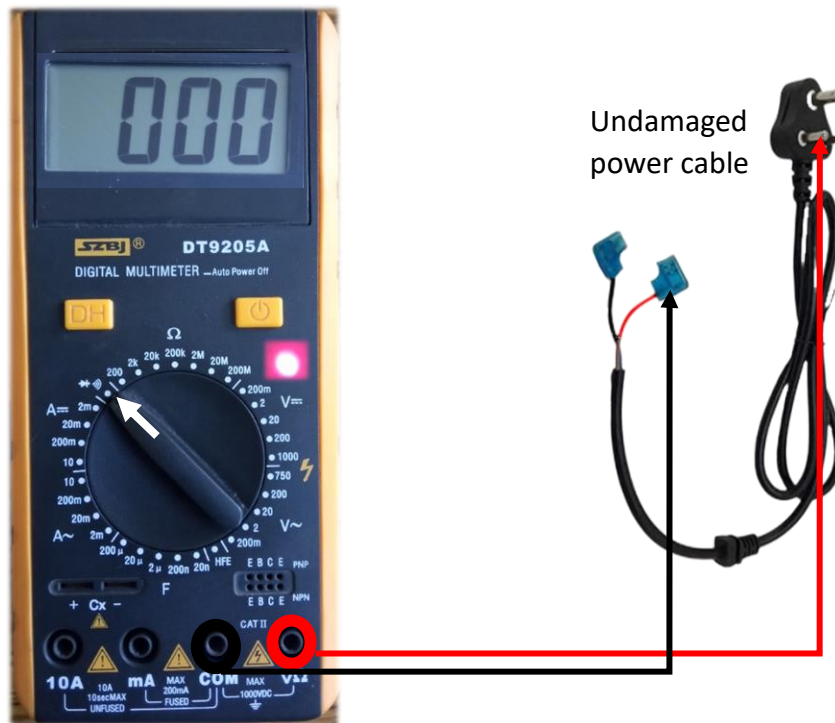

Figure 48: Multimeter indicating continuity when testing an undamaged power cable
Resistors have four or five color bands. Each color corresponds to a specific numerical value, as shown in figure 48.
- 1) Handle the resistor with a silver or gold color band on the right. If the resistor doesn't have these bands, you need to measure the distance between the extreme color bands to their nearest pins. As shown in Figure 48, the gap between the last band and its nearest pin is greater than the gap between the first pin and its nearest pin.